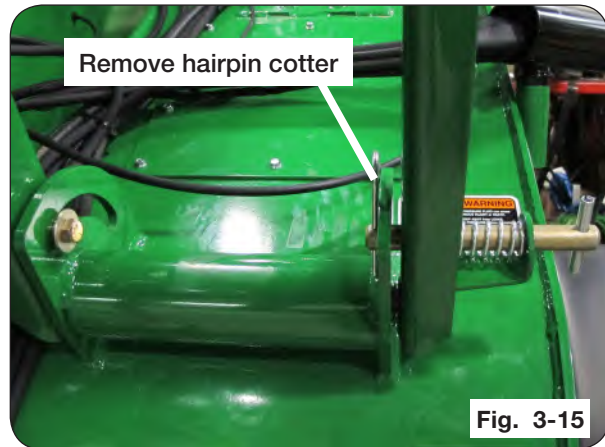
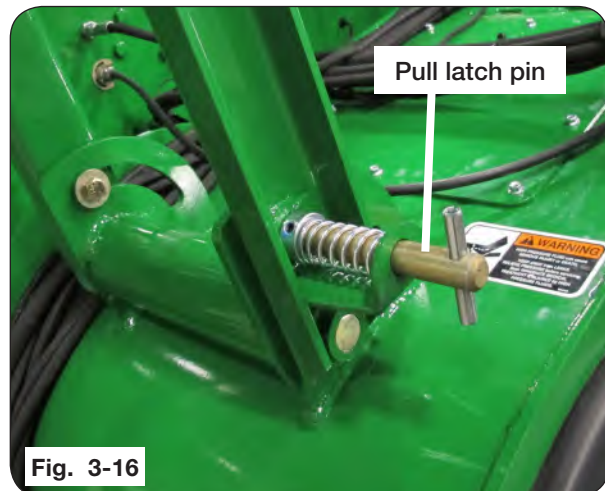

Fig. 3-15
Fig. 3-16
2. Remove hairpin cotter from latch pin (Figure 3-15) and pull latch pin to disengage (Figure 3-16). Raise auger rest stand up to field position and release latch pin. Make sure the pin is engaged in the field position hole and re-install hairpin removed earlier in this step.
- A. Rotate spout to centered position. Align the checkered flag decals to locate center as shown in Fig. 3-15.